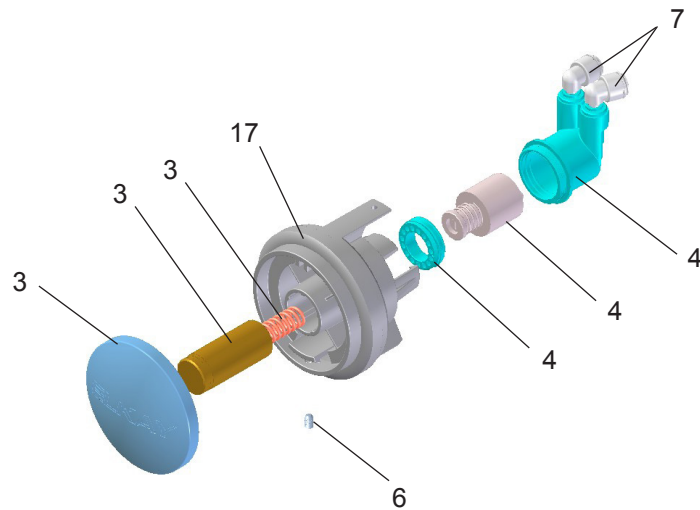

Figure 11 - Push Button Assembly
11. **Check stream height from bubbler.** Stream height is factory set at 35 PSI. If supply pressure varies greatly from this, remove push button (Item 3 - Figure 11) and adjust the screw on the regulator (Item 4 - Figure 11). To remove push button, remove set screw from bottom of sleeve (Item 6). Insert a small punch in screw hole and push up while grasping the push button and pull forward removing the push button. Clockwise adjustment will raise stream height and counterclockwise movement will lower stream height. For best adjustment stream should hit basin approximately 6-1/2" from the bubbler. Reassemble push button by pushing in on button until the push button catches in the sleeve. Reinstall the setscrew (Item 6) in the sleeve (Item 17).